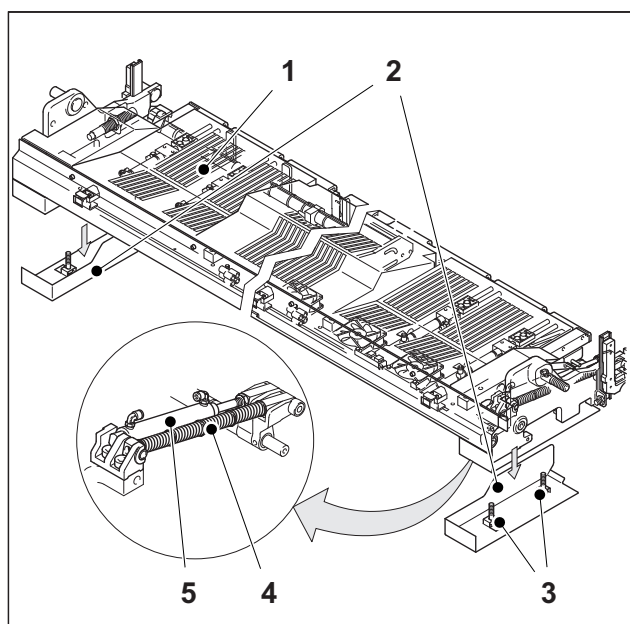

Fig. 37 Guide bar and pneumatic cylinder
1. Unscrew the Allen screws (Fig. 37/3).
2. Remove the bottom sheet-metal guards at D.S. and O.S. (Fig. 37/2).
4. Screw down the bottom sheet-metal guards at D.S. and O.S. (Fig. 37/2).